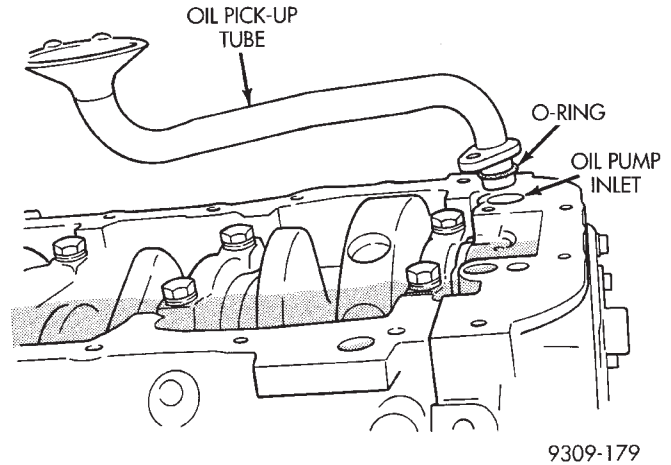

Fig. 70 Oil Pump Pick-up Tube Service
- (1) Disconnect negative battery cable, remove engine oil dipstick.
- (2) Raise vehicle. Drain engine oil.
- (3) Disconnect the sway bar and move to rear of vehicle to gain access to oil pan.
- (4) Remove transmission support brackets and inspection cover.
- (5) Remove oil pan bolts and remove oil pan.
- (6) Remove oil pick-up tube from oil pump body (Fig. 70).